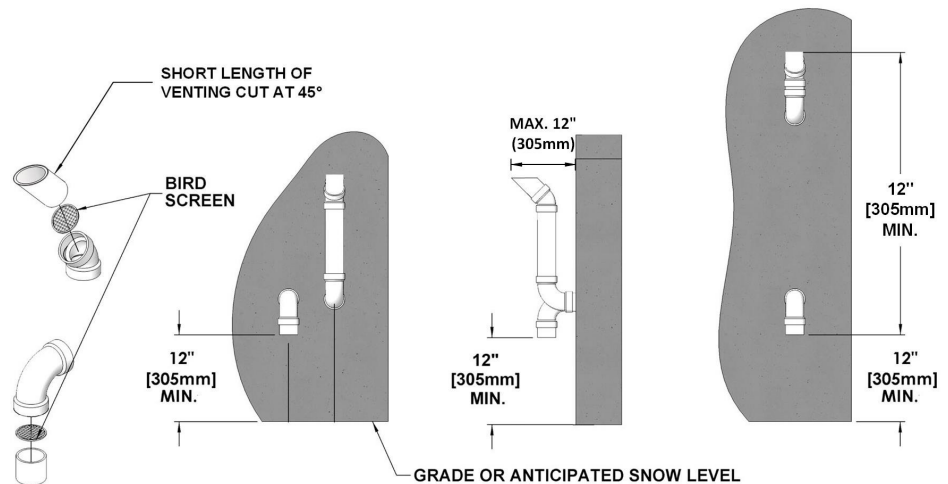

Figure 8: Sidewall vent termination - piping configuration
- The elevation of both pipes can be raised in "periscope style" after passing through the wall, then configured as in *Figure 8*, to gain required clearance.